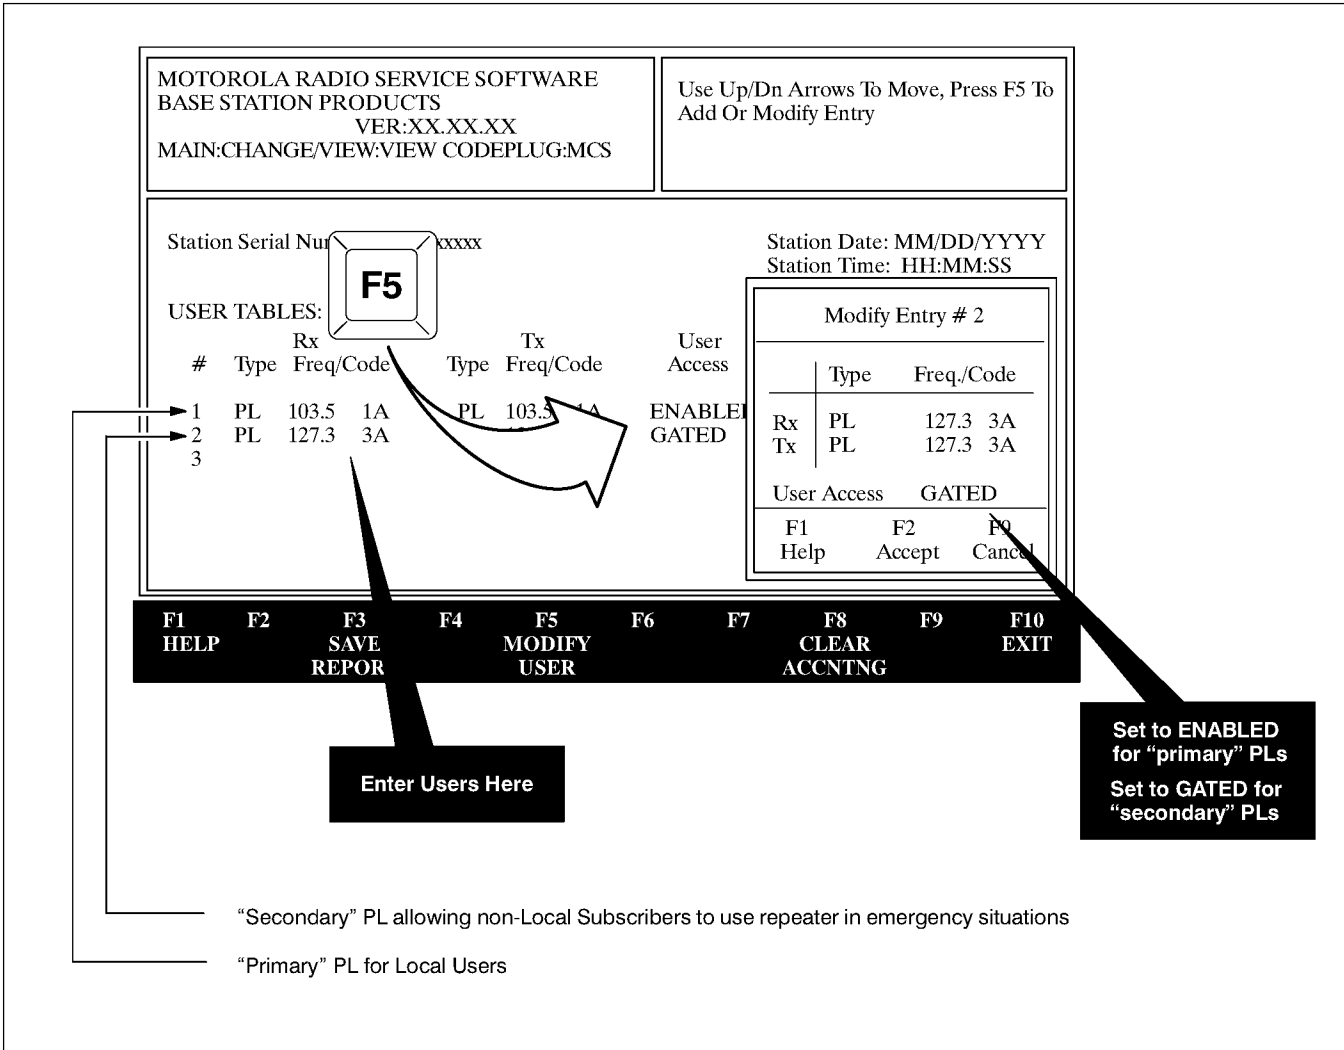

**Figure 5.** Making *Repeater Operation* RSS Setting
**Step 4.** Access the *RF Configuration Data* screen and set the *Repeater Operation* field for **REPEATER** (as shown in Figure 5).